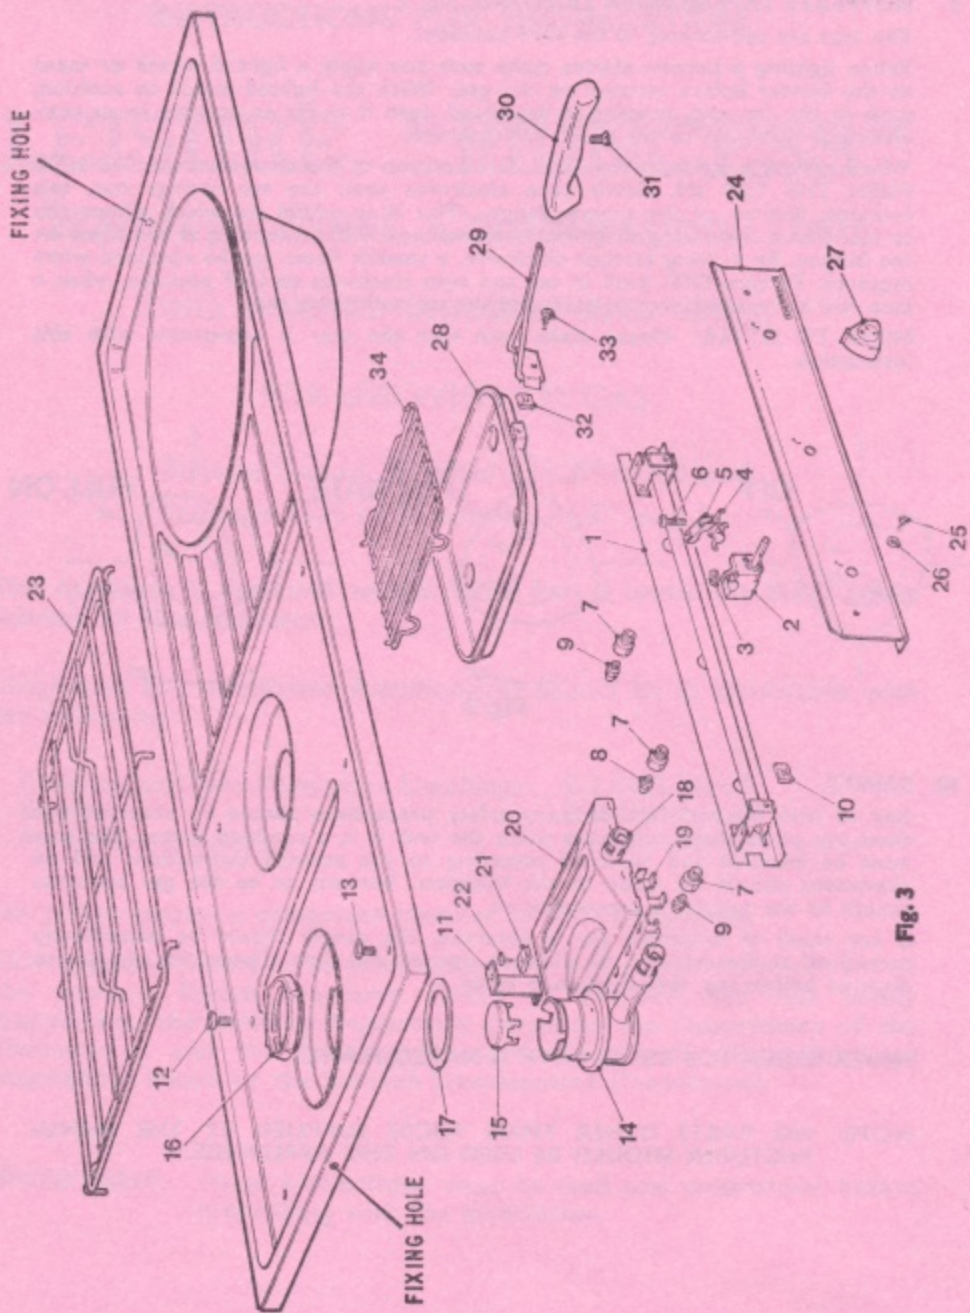

Fig. 3
2. Unscrew (anticlockwise) and remove locking rings from boiling burners, then locate both boiling burner assemblies on injector holders and insert burner pots through holes in spillage bowls. Ensure that gaskets are in correct position and not damaged in any way. (See Fig. 3).
NOTE. To avoid undue strain on the gas connection, the unit must be securely fixed to the cabinet in which it is installed. Two fixing holes are provided, one in each end flange (see Fig. 3).
PARTS LIST — LEISURE “PRINCESS” (see Fig. 3)